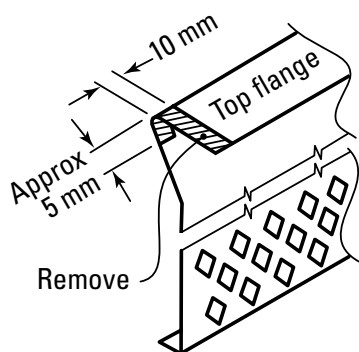
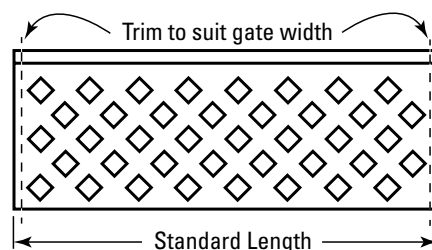

Figure 20.5
Figure 20.6
- 5) If required, trim the lattice to fit the width of your gate. Equally trim both ends to retain a balanced effect. (Figure 20.6) Notch the top leg of the lattice/slats on both ends. (Figure 20.5)